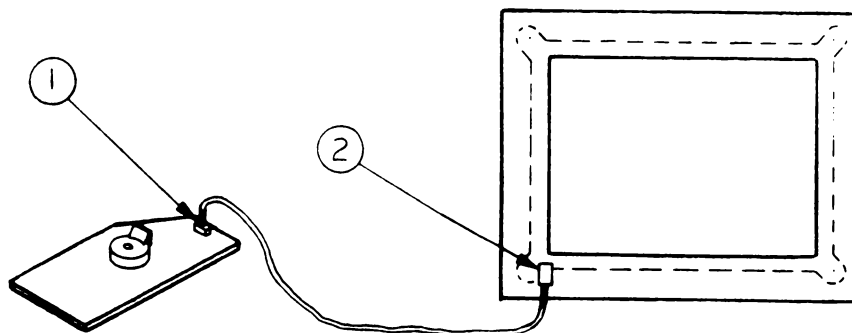

FIGURE 15
4. Disconnect the LED cable from connector LE on the CRT video board (Figure 15, #1). Cut any cable ties that prevent the cable from being removed from the CRT video board.
1. Position the LED assembly in the plastic holder so that its wires point toward the nearest corner (Figure 15, #2).
5. Connect the LED cable to its connector on the CRT video board (Figure 15, #1).